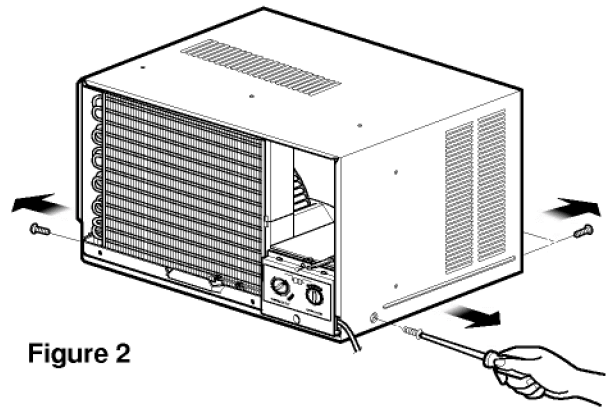

Figure 2
3. Pull the base pan forward. (See figure 2)